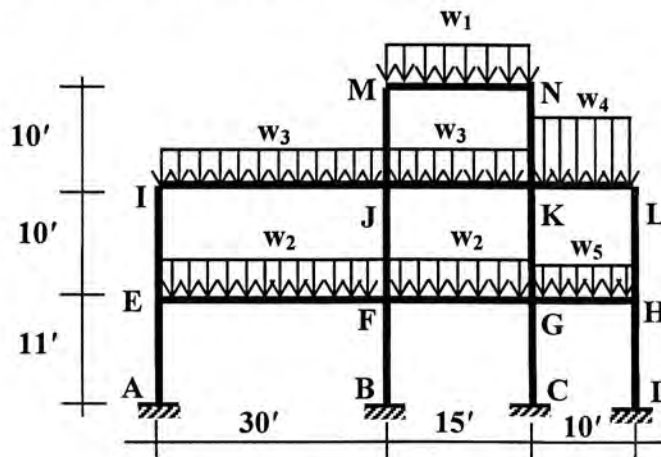

Figure 1
- [1] What are the assumptions for the vertical load analysis of Frames? Draw the approximate **Shear Force and Bending Moment Diagram** of EF, FG, and KL shown in Figure 1? Given, $w_1 = 1.25 \text{ k}'$, $w_2 = 2.5 \text{ k}'$, $w_3 = 3 \text{ k}'$, $w_4 = 8 \text{ k}'$, $w_5 = 2 \text{ k}'$.